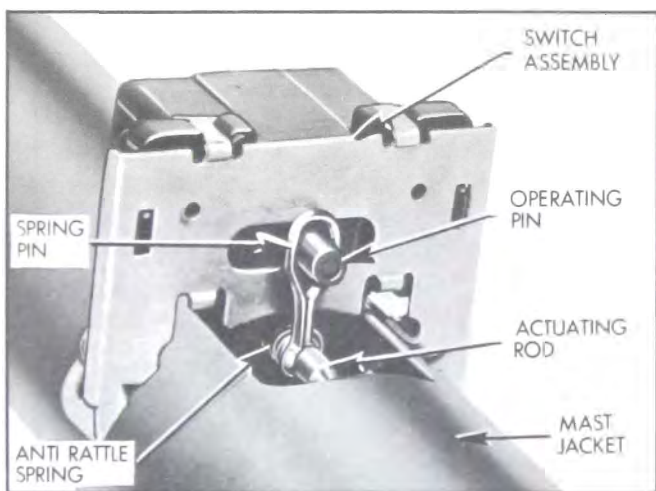

Figure 10-59—Direction Signal Switch Installation - Bottom View
Also check to see if the spring pin that retains actuating rod to switch pin is properly installed or broken. See Figure 10-59.
2. Loosen two switch mounting screws and move switch sideways on mast jacket until pin projecting from switch is centered. See Figure 10-59. Tighten switch mounting screws.